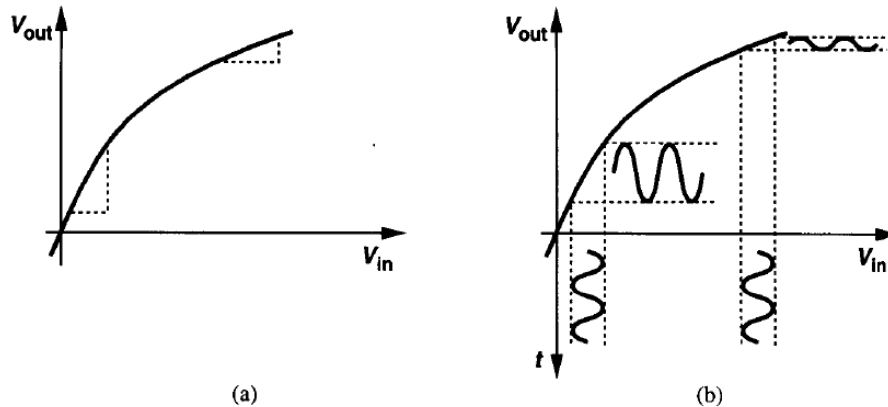

Figure 13.3 Variation of small-signal gain in a nonlinear amplifier.
- Fig. 13.3: A given incremental change at the input results in different incremental changes at the output depending on input dc level.